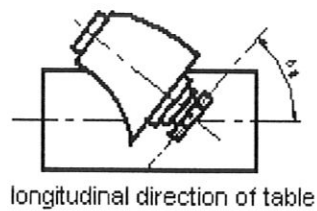

Fig.33
10.1.2 While milling the work-piece in left swivel direction(i.e the top part of the spindle is on the right side, see fig.33), the angle of both front and rear casings of the milling head will be: